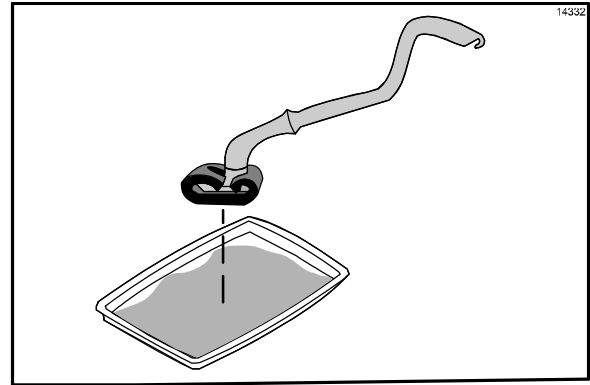

Figure 45
14. Dip the Kay Grill Cleaning Pad Holder into the grill cleaner. (See Figure 45.)